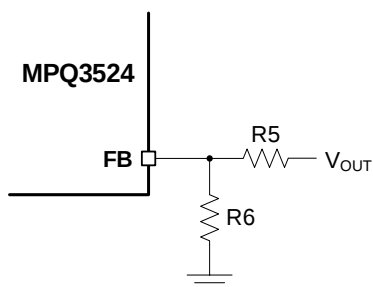

Figure 9: Feedback Divider Network for Adjustable-Output Version
The feedback (FB) voltage (V_{FB}) is typically 0.8V, and its output can be adjusted. The external resistor divider connected to FB sets V_{OUT} (see Figure 9).